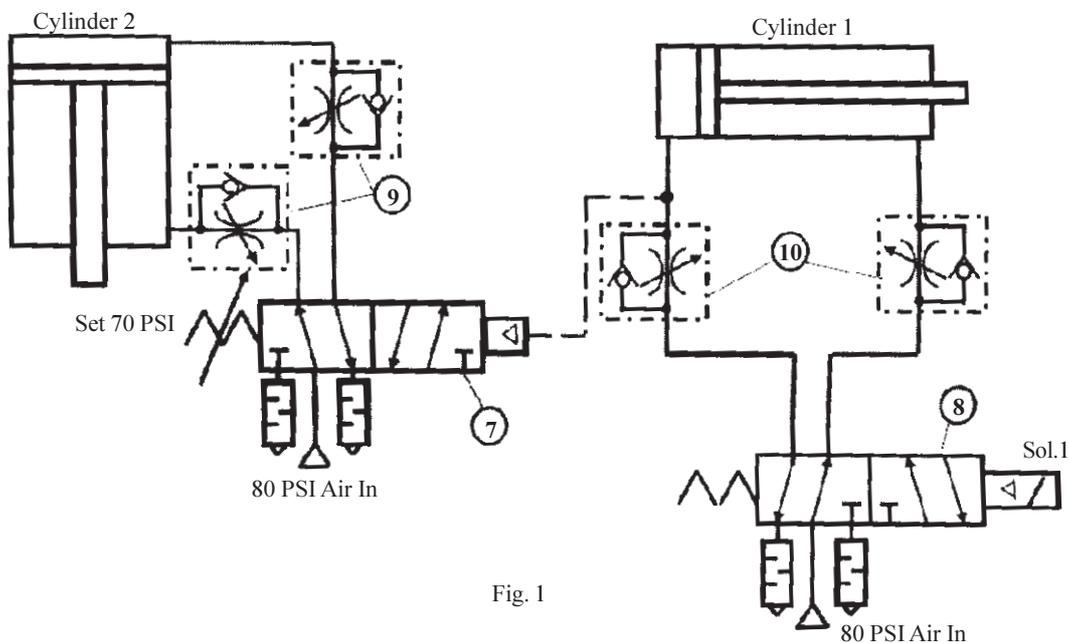

Fig. 1
- Q11)** Fig. 1 shows a pneumatic circuit. Identify the components of the circuit and explain the working of it. [16]